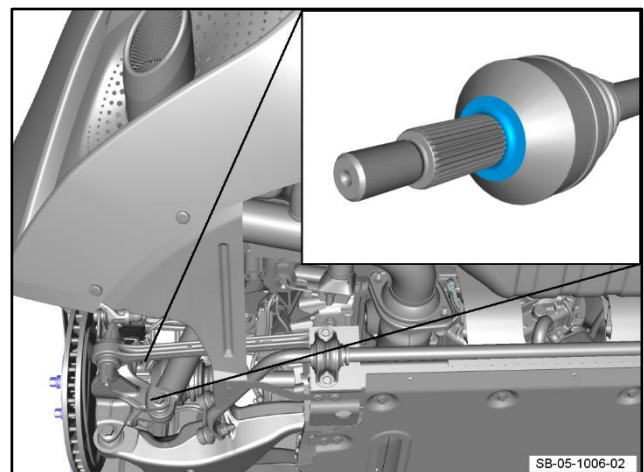

Figure 12
13. Apply the Anti-Fret paste to the surface of the driveshaft as shown (refer to Figure 12).